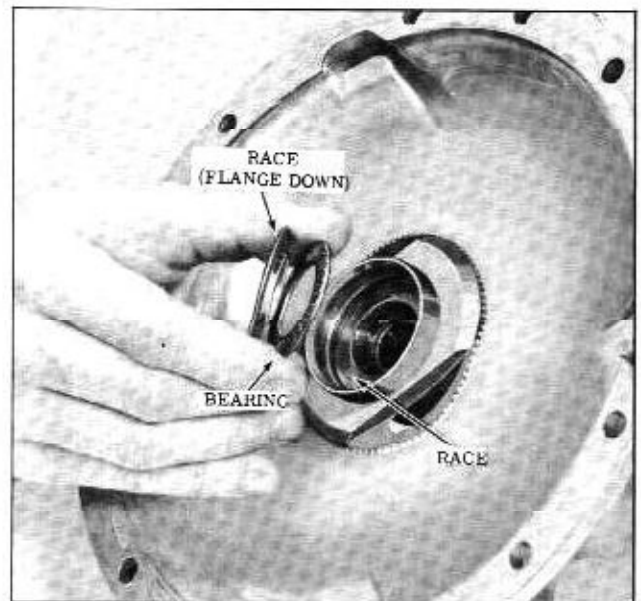

Fig. 3-123 Installing Bearing and Races
13. Install bearing into flanged race, coat with petrolatum and install into torus cover with flanged side down. (Fig. 3-123)